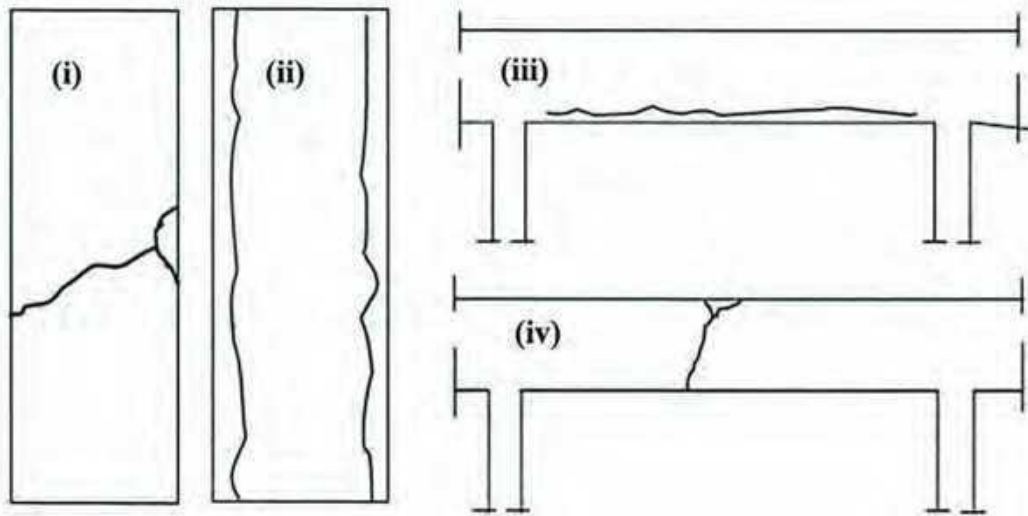

Figure 4
5. a) What assumptions are made in calculating the flexural resistance of a section strengthened with an externally applied FRP system? (8)
- b) What are the failure modes of FRP strengthened flexural member as per ACI. (5)
- c) "Confinement of circular column is better than confinement in rectangular column", Explain why? (4)
- d) Explain how concrete surface should be prepared before retrofitting. (3)
6. a) What are the main causes of deterioration of RC structures in Bangladesh? Discuss the problems that occur commonly during RC construction works in Bangladesh. (12)
- b) Explain concrete crack sealing by injection method. (4)
- c) Explain possible reasons for the cracks in RC beams and columns shown in *Figure 4*. (4)